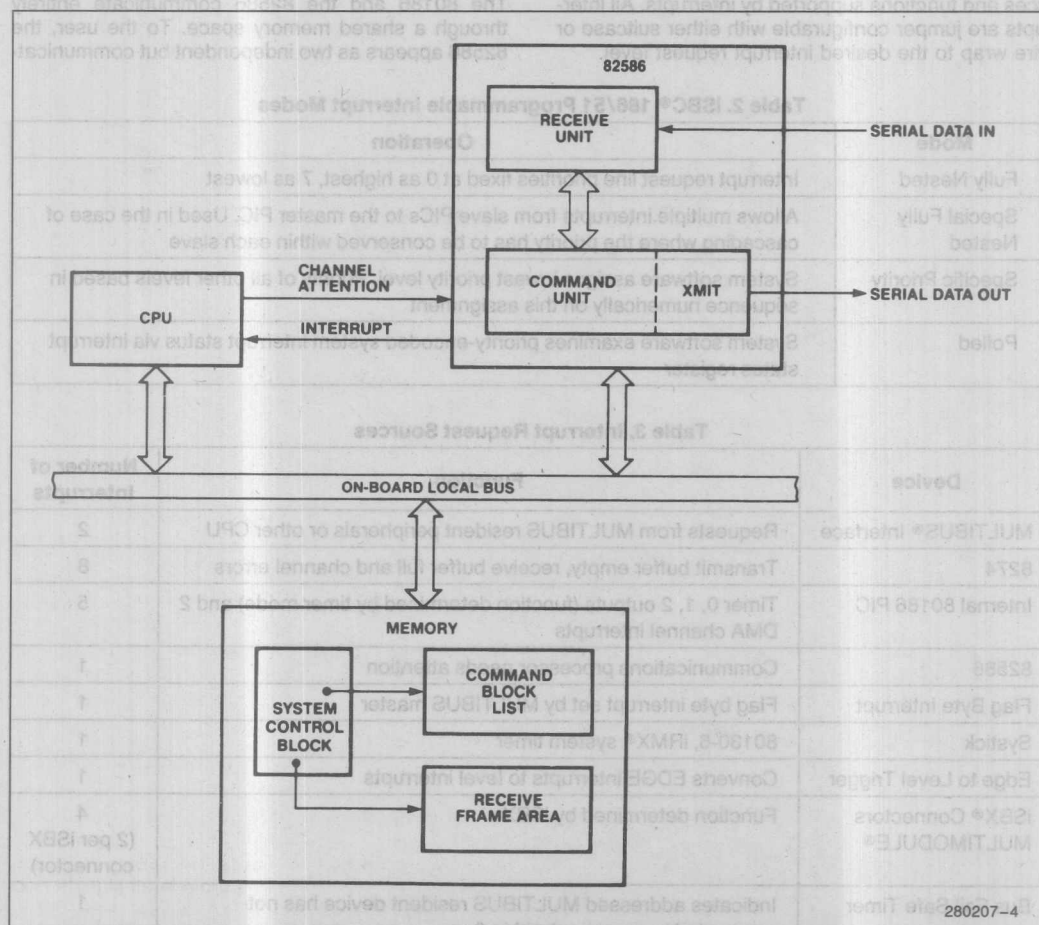

Figure 3. System Overview
ing units: the Command Unit (CU) and the Receive Unit (RU). The CU executes the commands given by the 80186 to the 82586. The RU handles all activities related to packet reception, address recognition, CRC checking, etc. The two are controlled and monitored by the CPU via a shared memory structure called the System Control Block (SCB). Commands for the CU and RU are placed into the SCB by the host processor. Status information is placed into the SCB by the CU and RU (via the CU). The Channel Attention and Interrupt lines are used by the CPU and the 82586 to get the other to look into the SCB. See Figure 3. The 82586 features a high level diagnostic or maintenance capability. It automatically gathers statistics on CRC errors, frame alignment errors, overrun errors, and frames lost due to lack of